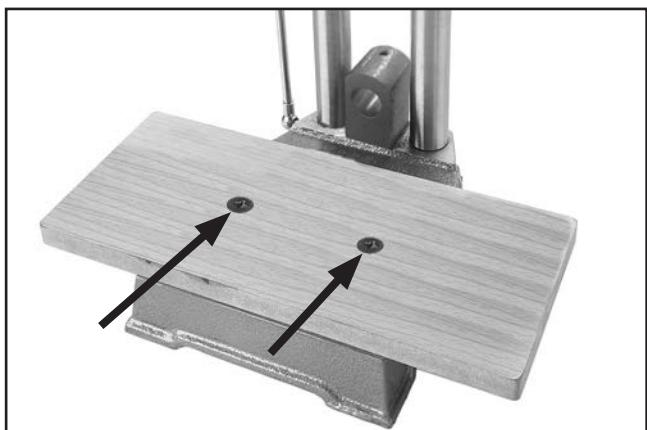

Figure 9. Work table secured to base.
4. Secure work table to base using (2) M8-1.25 x 20 flat head screws (see **Figure 9**).